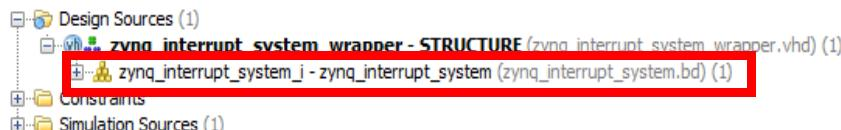

Figure 2.25: Opening an existing block diagram
- (c) Open the block design from the sources panel by expanding the sources and double clicking on the block design as highlighted in Figure 2.25.